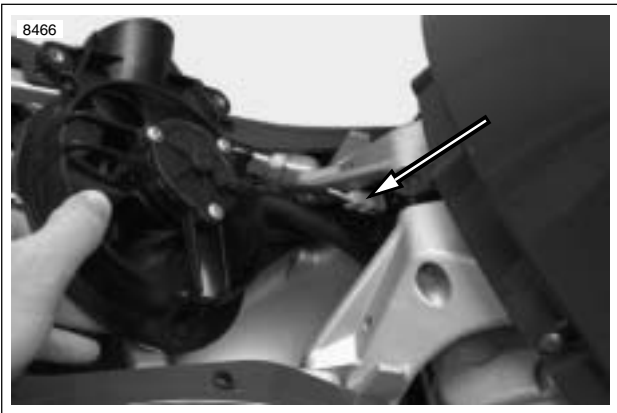

Figure 4-84. Cooling Fan Connector [97]
6. See Figure 4-84. Disconnect cooling fan connector [97].
1. See Figure 4-84. Connect cooling fan connector [97].